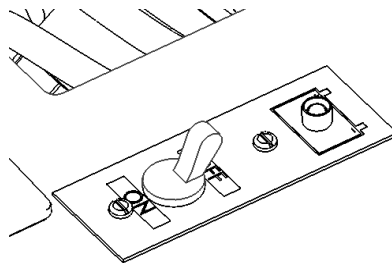
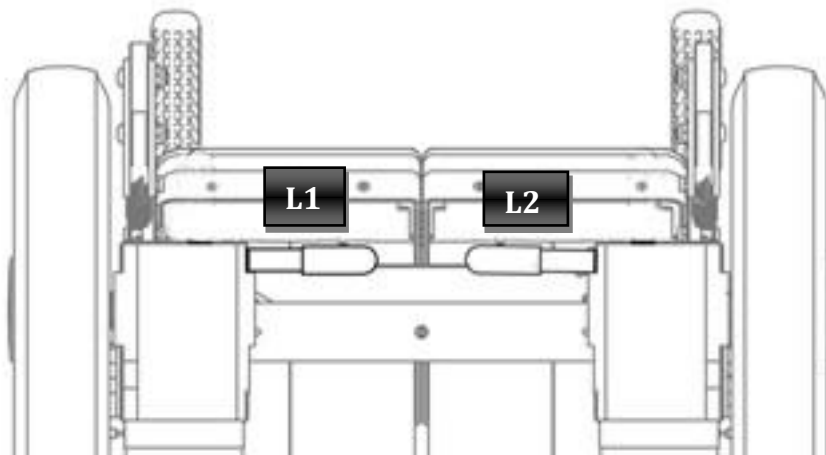

Figure 2
Figure 6
If you do not use your Pegasus Evo for a long time make sure that you set the switch (I) OFF, as shown in Figure 2. You should keep the Pegasus Evo in a place free from dust and moisture and away from heat sources.
Use the switch (I), see Figure 2, to turn on and turn off the Pegasus Evo.
If you need to use the push mode, use switch (I), (see Figure 2) to turn off the Pegasus Evo and set the release engine lever as shown in Figure 6.